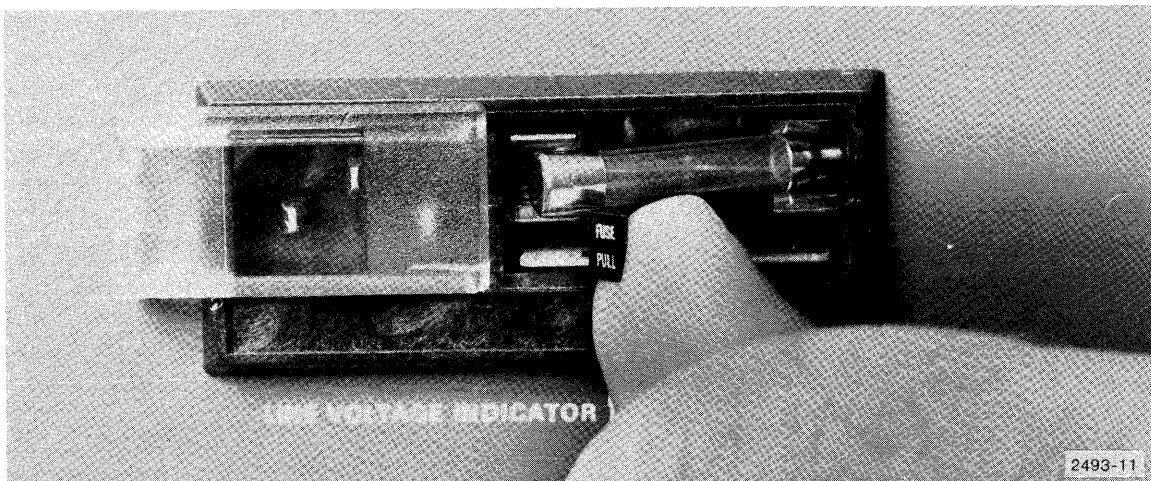

Figure 4-1. Removing Main Fuse.
3. Remove the fuse by pulling out lever marked FUSE PULL (Figure 4-1).
3. Remove the fuse by pulling out lever marked FUSE PULL. Refer back to Figure 4-1.